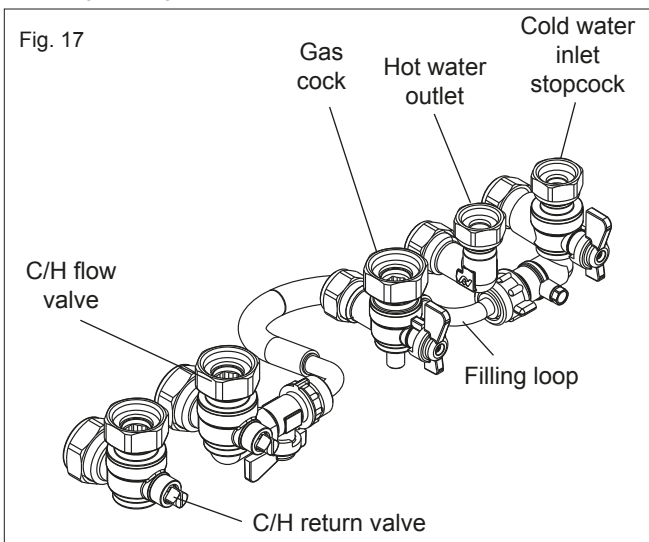

Fig. 17
5.6 CONNECTING THE GAS & WATER (fig. 17)